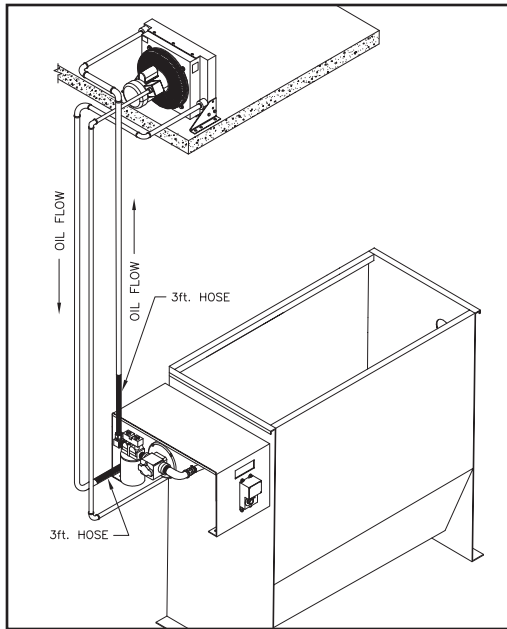

Fig. 11: Typical piping for remote mount heat exchanger.
3) Pipe the remote section of the oil cooler (**figure 11**) with iron or copper pipe.
4) Make (2) 3-ft. hoses from supplied hose and fittings. Connect to return bulkhead fitting and discharge side of filter. Complete connections to iron/copper pipe.
5) Run electrical conduit between components and make electrical connections to the fan motor (**figure 11**).